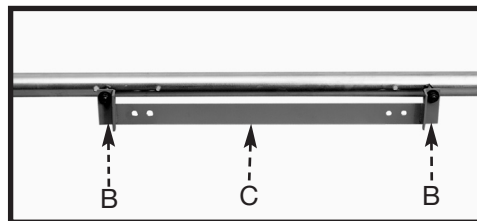

Fig. 12
4. Locate the lower rail assembly (Fig. 12), and remove one nut and washer (B) from each side. Remove the mounting bracket (C) Fig. 12.
**NOTE:** Discard the bracket, but save the two nuts and washers (B) Fig. 12. They will be used to mount the rail to the stand.